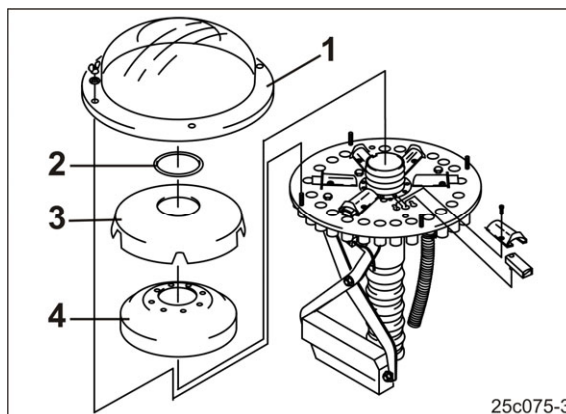

Fig. 230
4. Remove the outer distributor cover (Fig. 230/1).
5. Remove the ring (Fig. 230/2).
6. Remove the inner distributor cover (Fig. 230/3).
7. Remove the foam insert (Fig. 230/4).